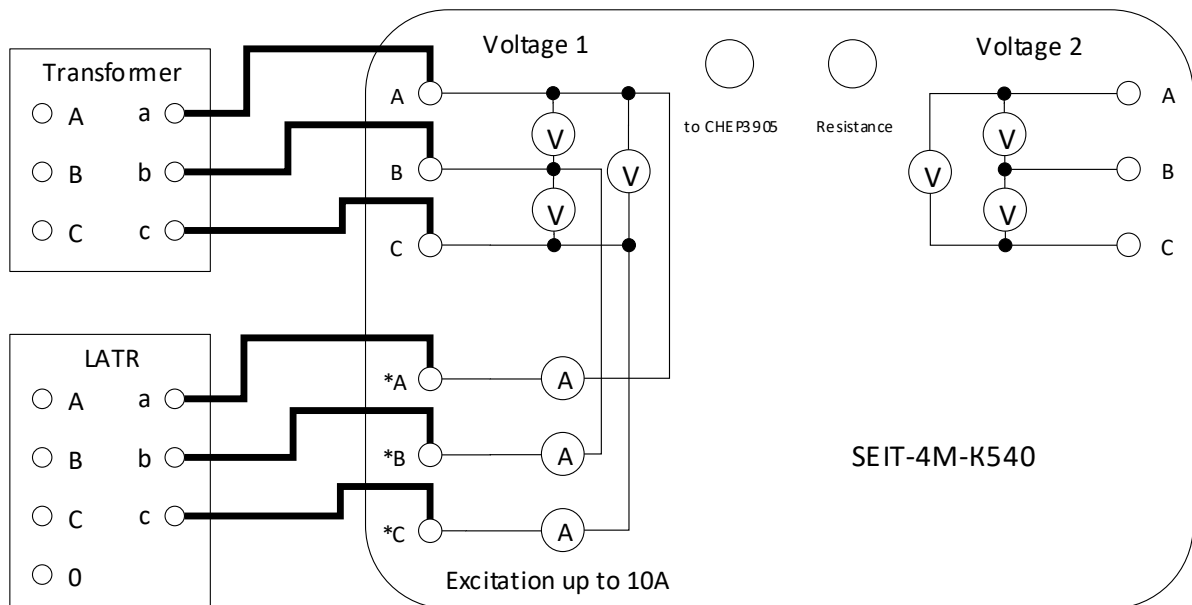

Fig. 10. Connection Circuit for an Open-Circuit Test at Rated Voltage
5.3.1.1. To perform an open-circuit test at rated voltage, assemble the measuring circuit shown in Fig.10.